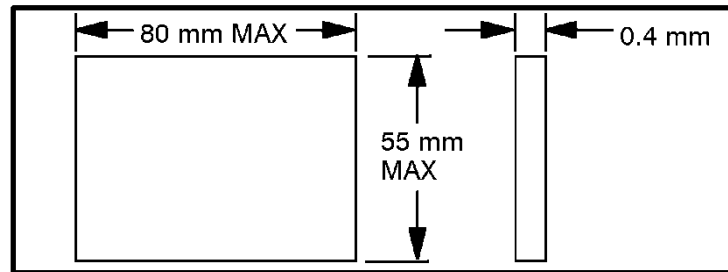

Figure 5 - Plate Configuration
4.10.4 Plate Size - (See Figure 5)